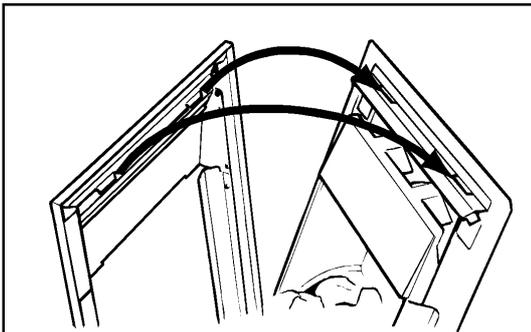

Fig. 20 Outer surround top location
9.2 Pick up the outer surround and slide the control button upwards as far as it will go. Make sure that the bottom of the linking bar is higher than the bottom of the front surround. Locate the two lugs at the top of the front surround in the slots in the convection box hood (See figure 20). Swing the bottom of the surround sides back against the convection box and lower the surround so that the lugs are fully seated in the slots in the convection box hood.